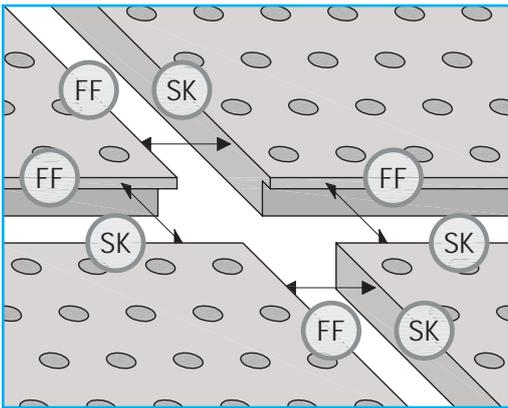

FIGURE 4 FF Edges Alignment
- > Place FF edge adjacent to SK edge along short and long edges. [Figure 4]